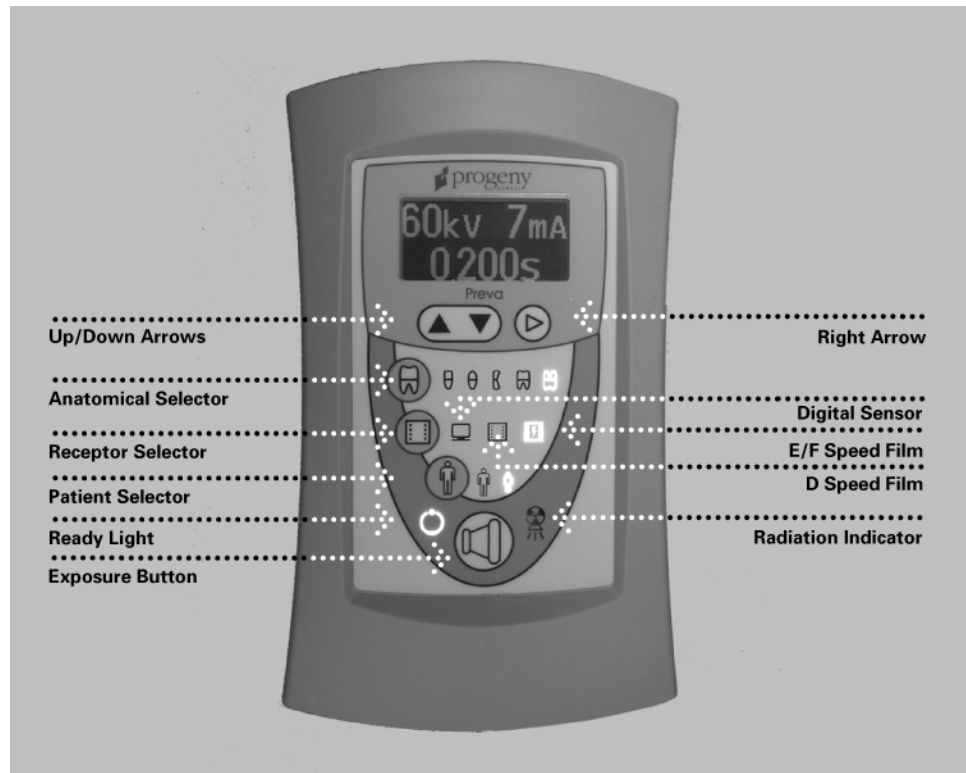

Figure 2
When the system is powered on, the Operator Panel, Figure 2, displays the exposure settings (kV, mA, and seconds) for the currently selected tooth, image receptor type, and patient size. Use the Tooth Selection, Image Receptor Type, and Patient Size buttons to select other exposure settings.
1. Turn the power switch, located at the upper right of the Control Unit, to the "On" position. The Ready Indicator on the front of the Operator Panel, Figure 2, will light.